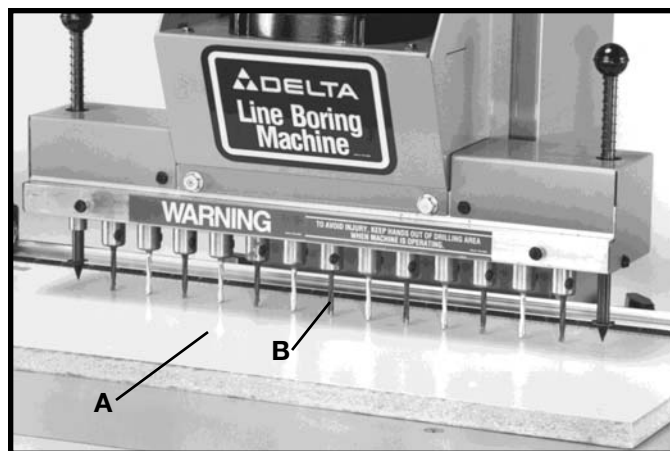

Fig. 37
1. Place a flat piece of wood (A) Fig. 37, on the table and against the fence as shown. Pull operating handle downward until **ANY ONE** boring bit (B) first contacts the top of the wood surface (A). **NOTE:** If all boring bits (B) contact the top surface of the wood at the same time, no alignment is necessary.
2. If any of the boring bits (B) Fig. 37, are not contacting the wood surface (A), remove each bit that does not contact the board one at a time. Loosen the set screw in the shank end of the bit by the same amount that the bit does not contact the wood. Reassemble the bit into the same spindle as far as it will go, and tighten the spindle set screw. After all bits have been adjusted, go back to step 1 and recheck the alignment.